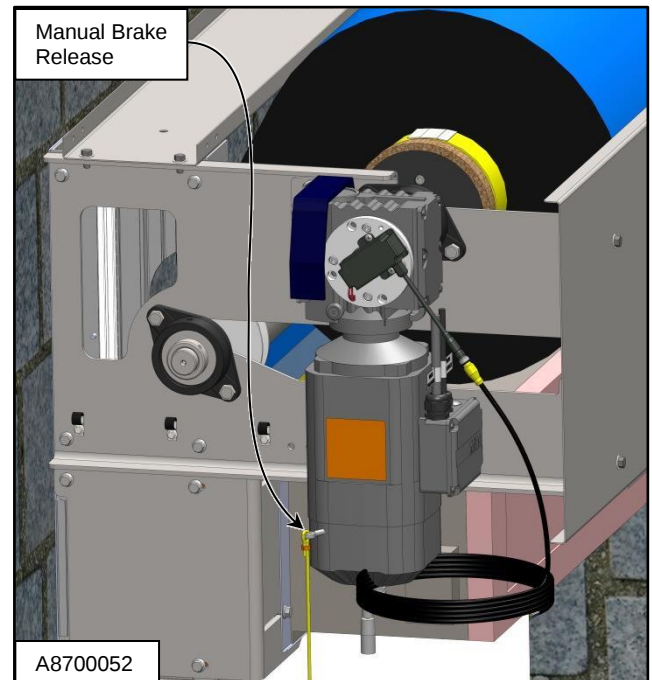

Figure 27
1. Release the motor brake by pulling on the brake release cable. Then manually move the door to the fully closed position. (See Figure 27)